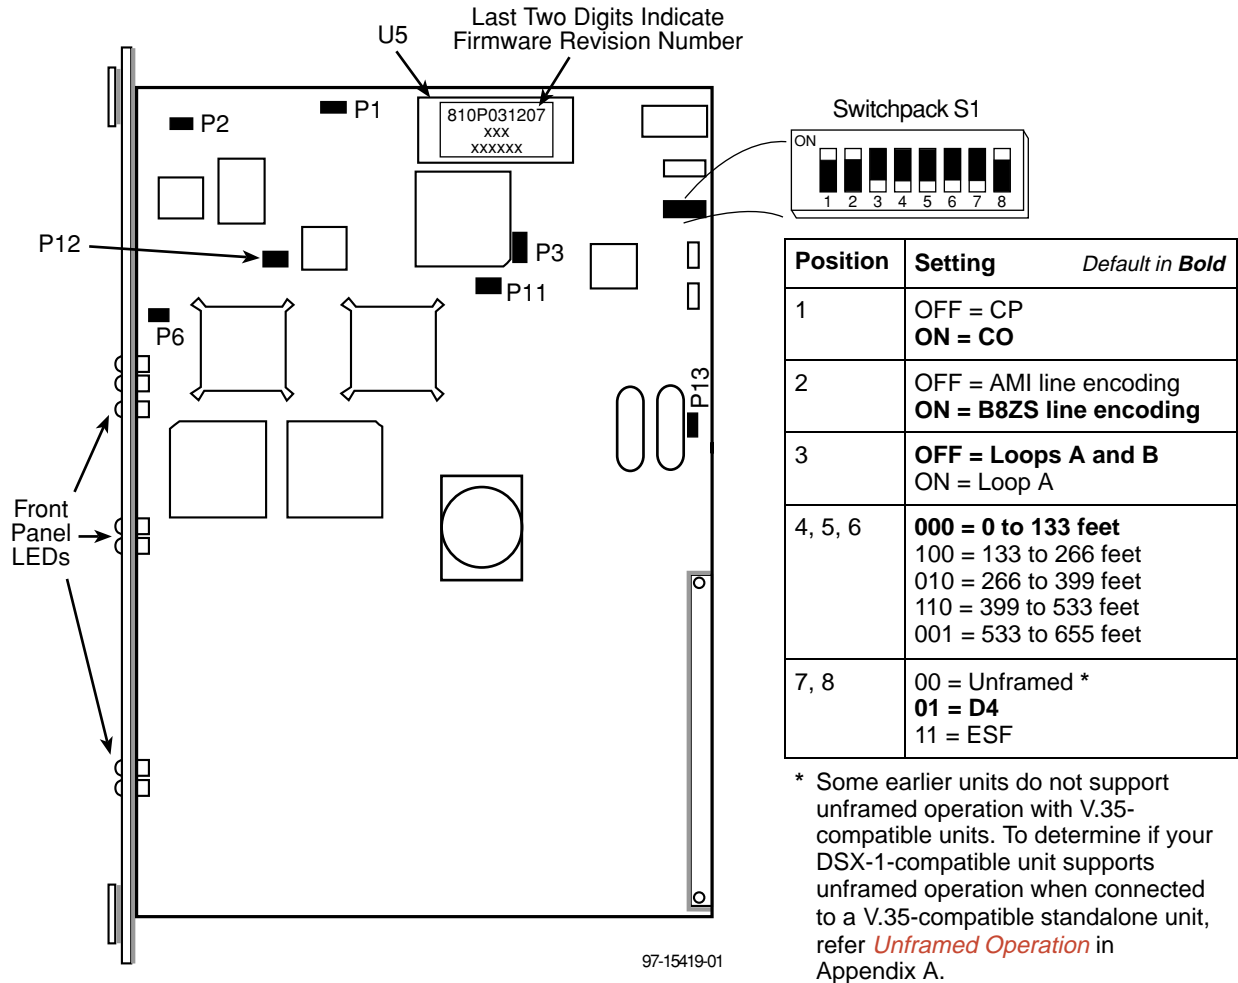

Figure 3-1. HotWire 7924 Nest Card Switchpack and Jumper Locations
3. Use Figure 3-1 to locate switchpack S1.
Use Figure 3-1 to locate HotWire 7924 nest card jumpers and switchpack S1.